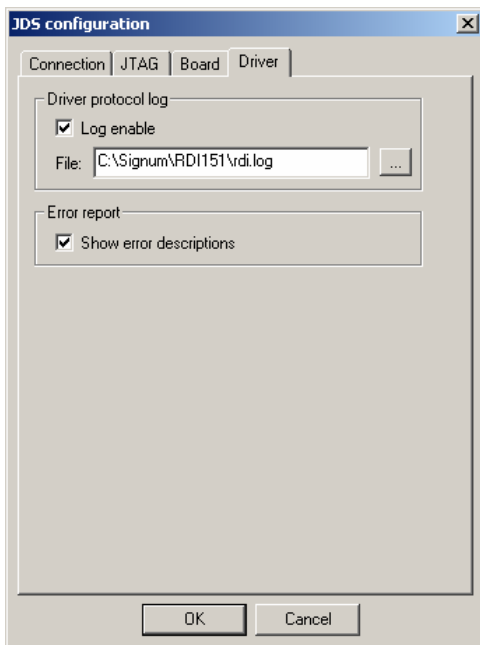

FIGURE 10 Configuring the emulator: the Driver tab.
- To enable the driver to generate descriptive error messages, select Show Error Messages (Figure 10). This option does not affect the way your debugger displays its own error messages; it is designed simply to augment and clarify those debugger messages that tend to be cryptic or are limited to error codes only.